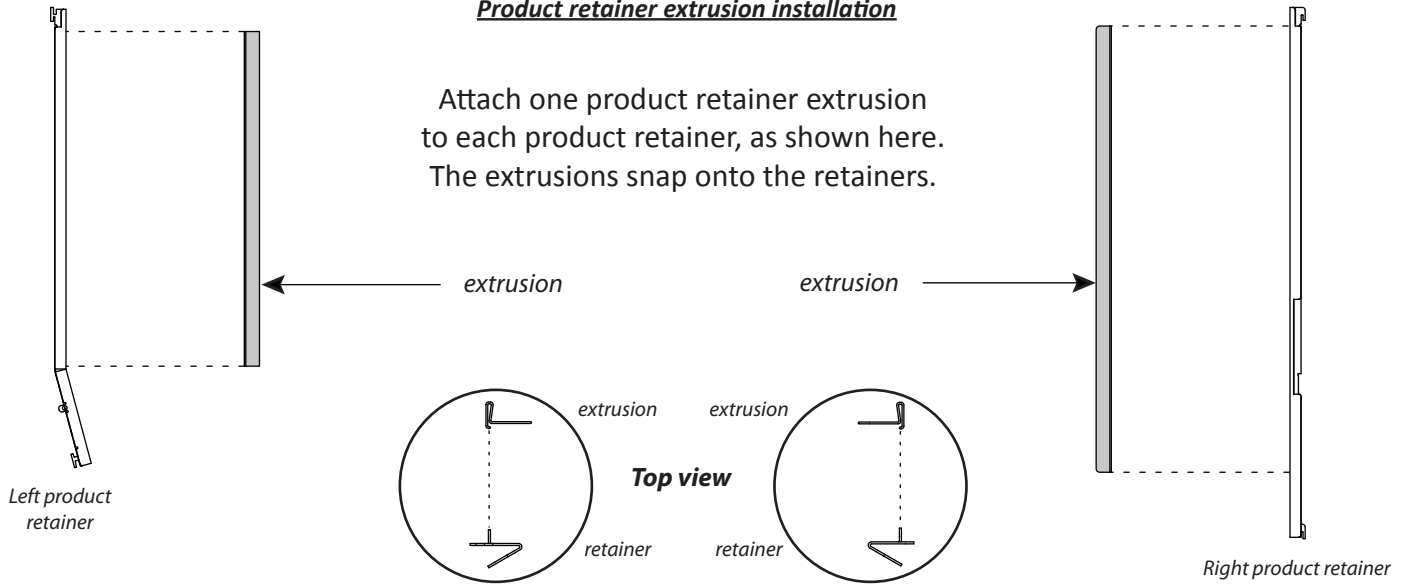

Figure 2.
3. Install the center divider extrusions as shown in Figure 2. Pull down the center divider extrusion so its bottom is even with the funnel angle.)
2. Install the center divider extrusions as shown in Figure 2.